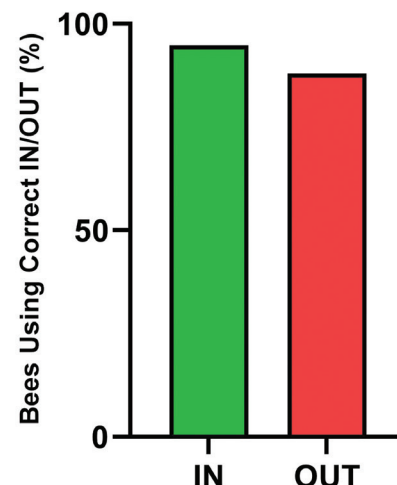

Figure 7
B. Another option with the cones is to turn both cone inserts "in" to **reduce outgoing traffic**. This "double in" configuration would only be used for a short time, but it can be helpful for mowing or other activities near a hive that can agitate the colony. It's important to note that the bees can go in the small end of the cone, so not all outgoing traffic is blocked (Figure 7).